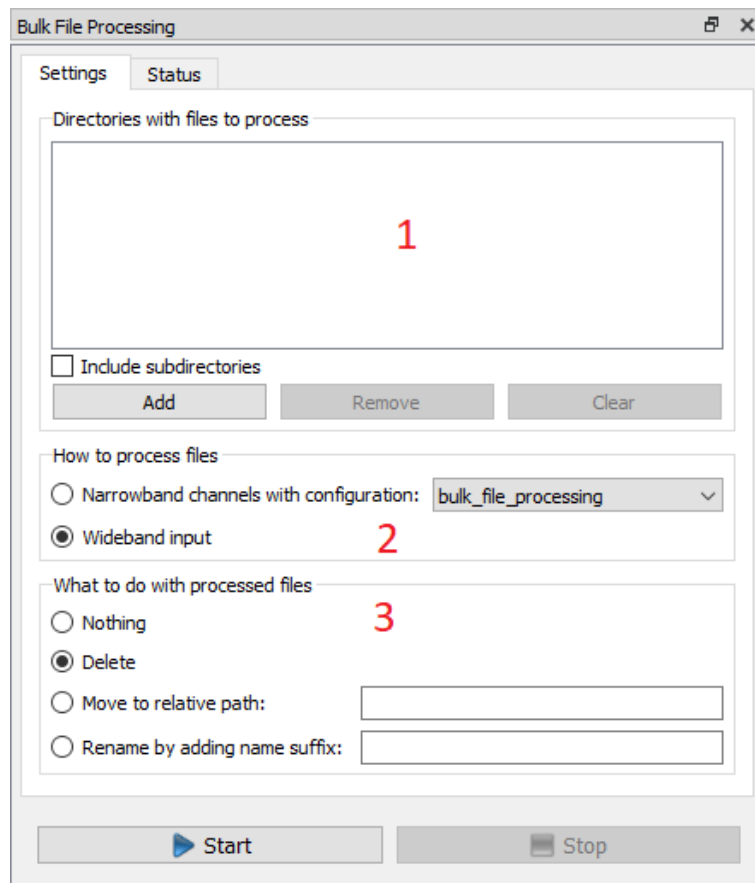

Figure 179.: Dialog with settings of Bulk File Processing
There are three settings that the user must make before starting Bulk File Processing (see Figure 179).
Directories to be searched for signal files by Bulk File Processing are shown in the list at (1) in Figure 179. Click the <Add> button to add directories to the list. Individual entries can be marked by clicking in the list and deleted from the list by clicking the <Remove> button. Clicking the <Delete All> button removes all entries from the list.
In order to play the signal files in narrowband channels, the option <Narrowband channels with configuration> (2) in Figure 179 must be selected. If Bulk File Processing is started with this option, all open narrowband channels will be closed first.
After processing for a file is complete, there are four ways to proceed with the file (see (3) in Figure 179):